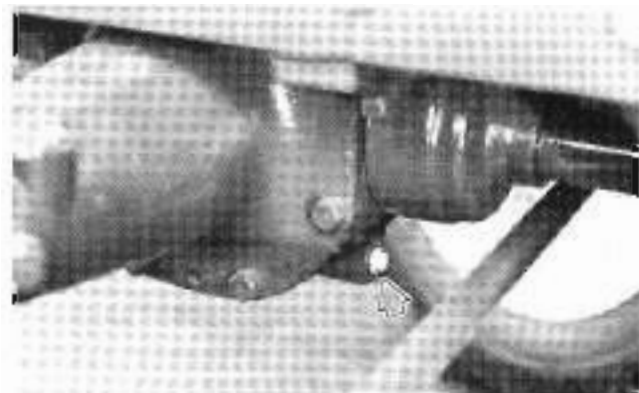

Figure 47 - Front Axle Differential Drain Plug
**Checking Oil Level:** Check the oil level in the front axle differential case every 50 hours. A top cover fill plug (Figure 47) is located on the top edge of the housing. The oil level should be between the marks on the dipstick.
**Changing Oil:** Drain and flush the differential case every 200 hours by removing the drain plug (Figure 47). Fill with a high quality, extreme pressure gear lubricant with an anti-oxidant additive. Refer to the following chart for recommended viscosity grades.